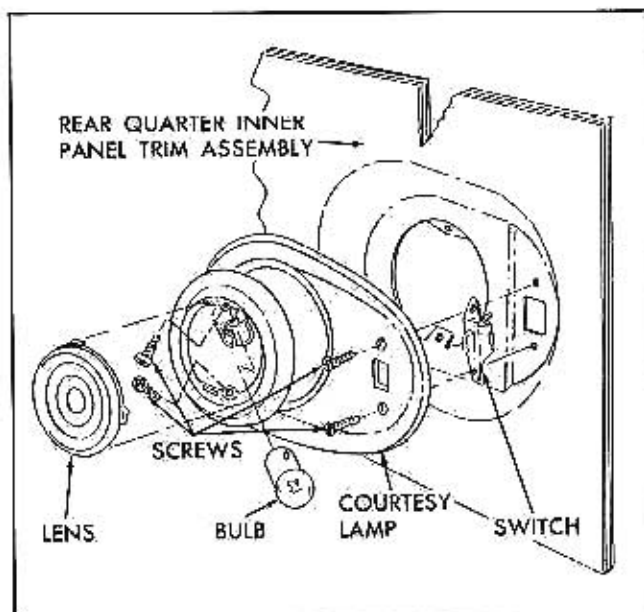

Fig. 3-11 Rear Quarter Courtesy Light
1. On "45" styles, remove screws securing courtesy lamp and switch assembly to trim panel and carefully remove assembly sufficiently to disengage wires at rear of lamp and switch. Remove rear finishing panel (Fig. 3-11).